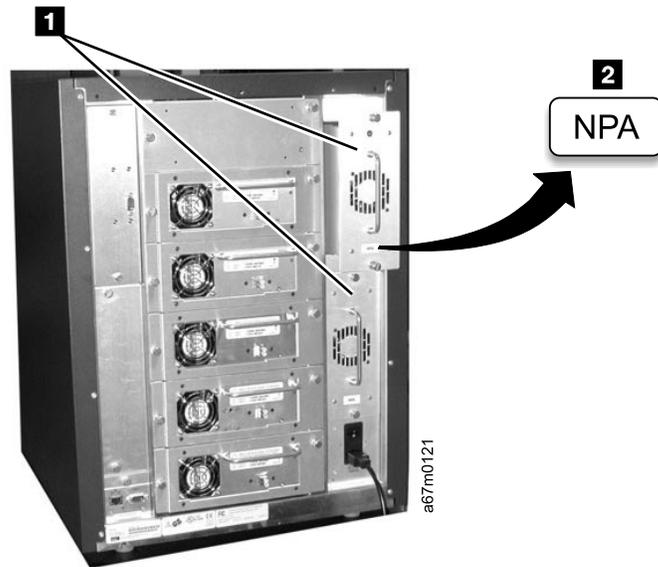

Figure 7-43. Comparing dc Power Supplies
1. From the rear of the library, locate the one or two dc power supplies that are currently installed in the library ( **1** in Figure 7-43 on page 7-50).